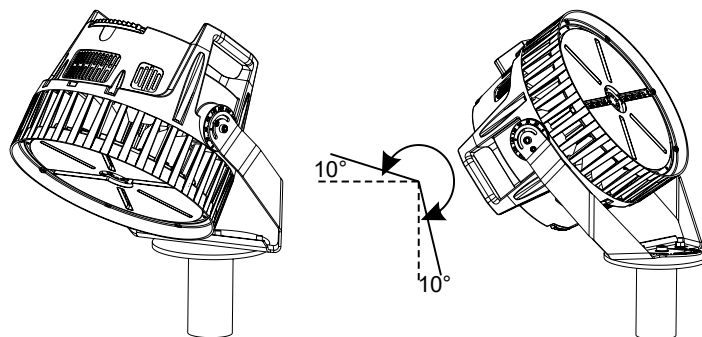

Figure 13
4. According to the need, carry out the projection angle adjustment, angle adjustment range (Figure 13).